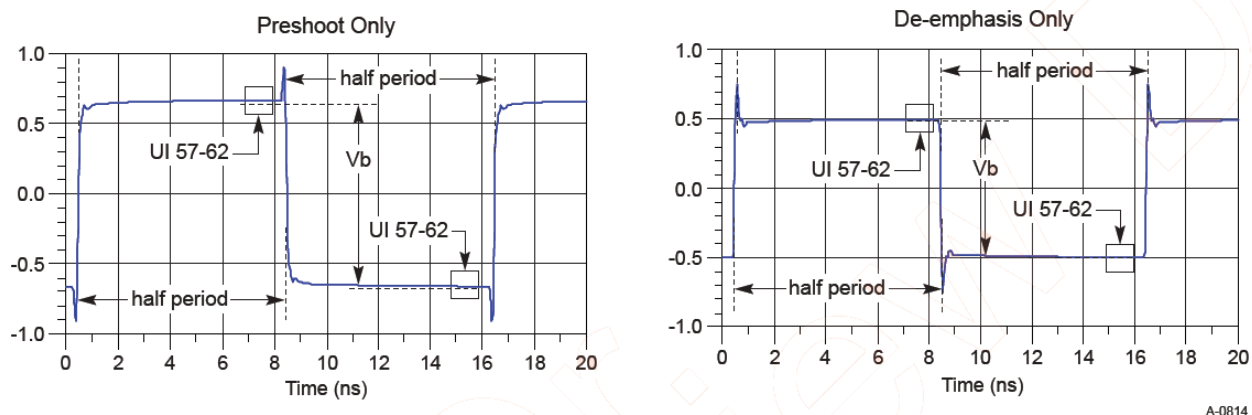

Figure 57 Waveform measurement points for preshoot and de-emphasis
8.0 GT/s, 16.0 GT/s and 32.0 GT/s PCIe signaling must support the full range of presets given in Table 8-1 (PCIe Base Specification Revision 5.0). Presets are defined in terms of ratios, relating the pre-cursor ( $V_c$ ) is referred to as pre-shoot, while the post-cursor ( $V_b$ ) is referred to as de-emphasis. This convention permits the specification to retain the existing 2.5 GT/s and 5.0 GT/s definitions for Tx equalization, where only de-emphasis is defined, and it allows preshoot and de-emphasis to be defined such that each is independent of the other. The tolerances in Table 8-1 (PCIe Base Specification Revision 5) also apply to 2.5 and 5.0 GT/s de-emphasis. The maximum swing,  $V_d$ , is also shown to illustrate that, when both  $c_{+1}$  and  $c_{-1}$  are nonzero, the swing of  $V_a$  does not reach the maximum as defined by  $V_d$ . The high frequency nature of PCIe signaling makes measurement of single UI pulse heights impractical. Consequently all amplitude measurements are made with low frequency waveforms as shown in Figure 57.